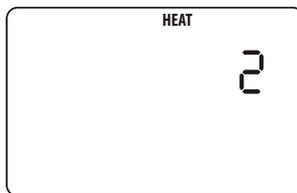

Figure 6–6 Humidifier Setting Screen
1. From either the Standby or Monitoring screen, press and hold the **HEAT** button for several seconds. The Humidifier Setting screen appears, as shown in Figure 6–6.